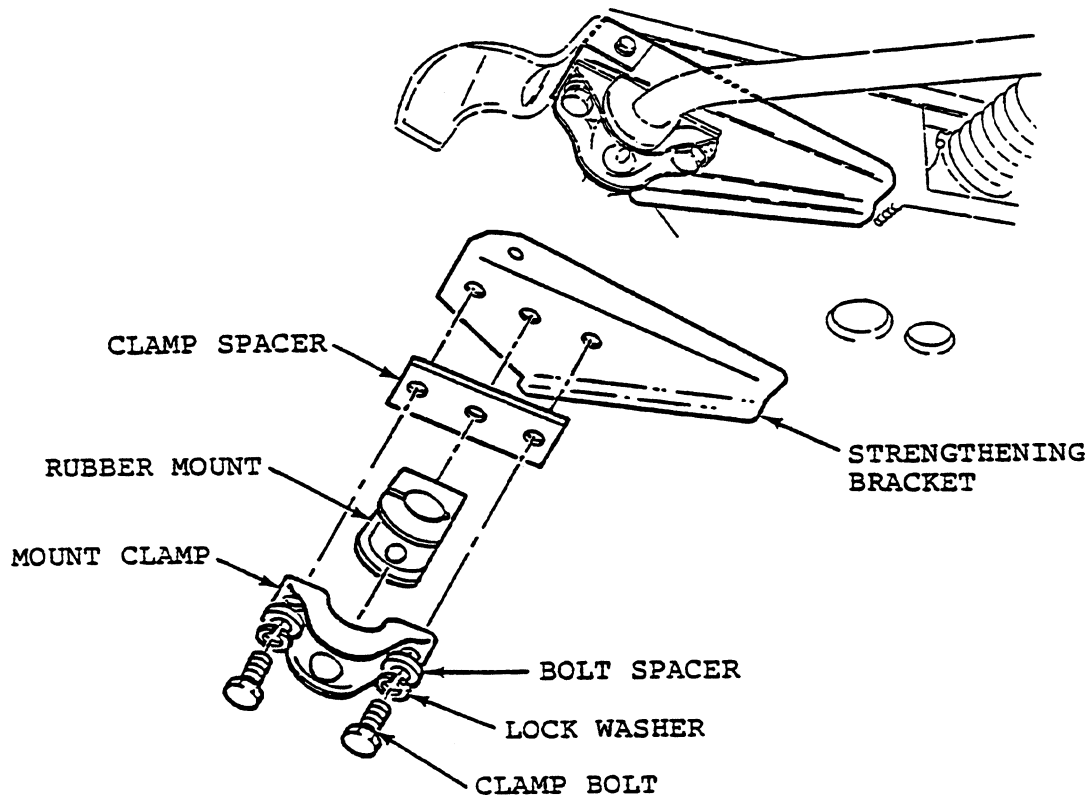

FIGURE 2
18. Reposition the original clamp spacers and the supplied stabilizer mount clamps (P/N 108998) and secure to the chassis extension with the supplied bolt spacers (P/N 111205), the original lock washers and the supplied bolts (P/N 111204) after the bolts are coated with Loctite 242 (See Figure 2). Torque to 35 Nm (26 ft.lb.).